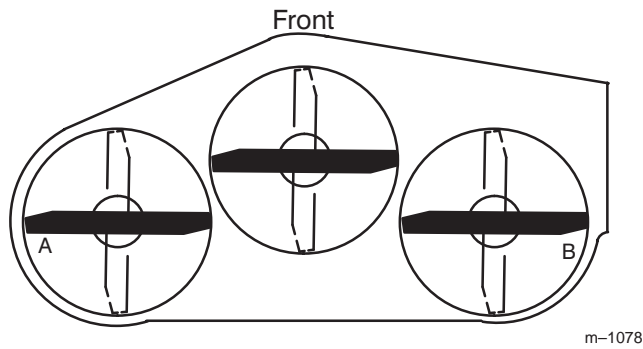
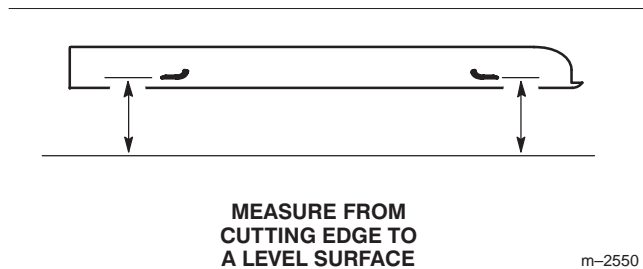

Figure 65
Figure 66
2. Position the blades side-to-side (Fig. 65). Measure at "A" and "B" locations (Fig. 65) from a level surface to the cutting edge of blade tips (Fig. 66).